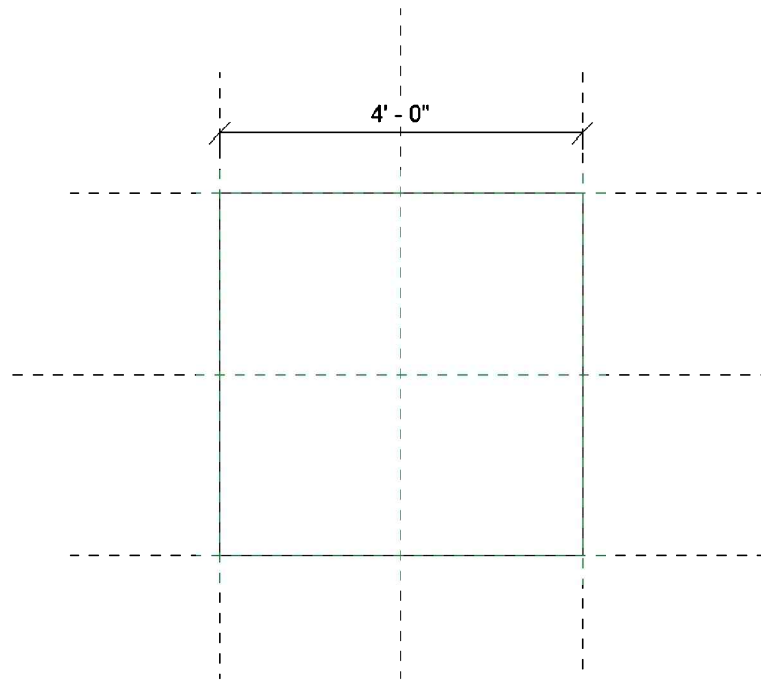

FIGURE 18-3.1 Dimension added to reference planes
3. Click the vertical left and right *Reference Planes*, and then click a third point to position the dimension line (Figure 18-3.1).